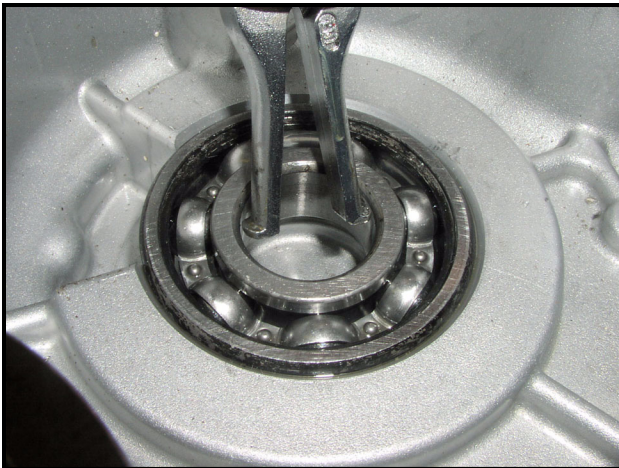

Figure 8-12 Remove Input Shaft Bearing from Case
10. Remove the input shaft bearing from the case cavity (**Figure 8-12, Page 8-5**).